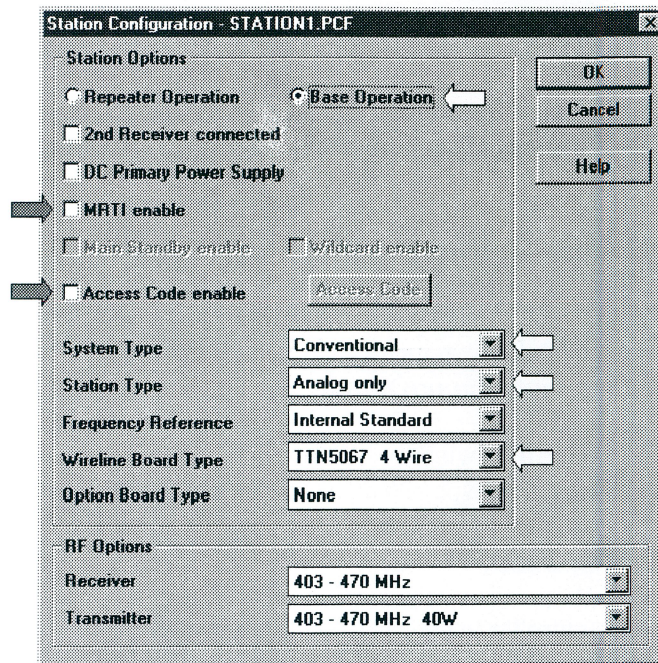

Fig. 1
2. From the **Station Configuration** window, click on the **Edit Config** button. The Station Configuration window will appear. (Fig. 1)